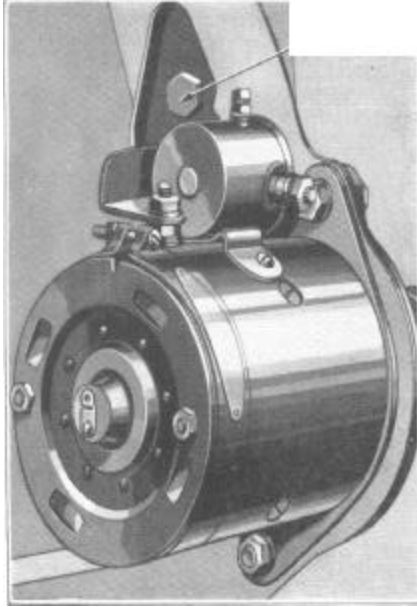

Figure 7
To insert the Hudsonite, turn the engine until the drain plug (A), Figure 7, in the front face of the flywheel is visible through the timing inspection hole in the left side of the rear engine plate. Remove the plug (A) and turn the engine slowly until the star stamped in the front of the flywheel is visible through the inspection hole. Allow a minute in this position to permit the clutch housing to drain, then turn the engine until the filler hole again appears in the timing hole and insert one-third pint of Hudsonite. Replace the plug and tighten securely. Hudsonite is available through all Hudson and Terraplane Distributors and Dealers.